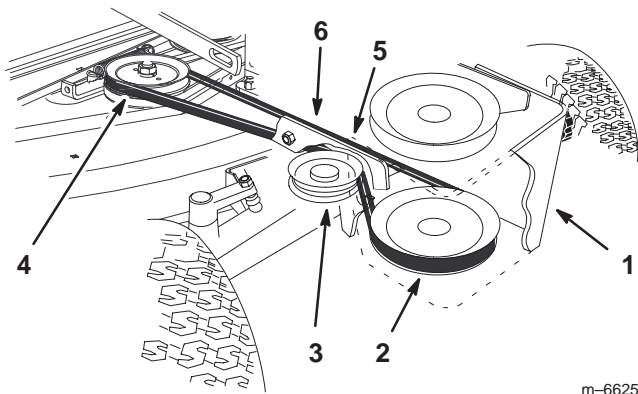

Figure 9
2. Install the mower drive belt onto the mower center pulley (Fig. 9). Ensure that it is on the upper center pulley.
3. Install the mower drive belt onto the lower pulley and the lower idler pulley in the pulley box (Fig. 9).